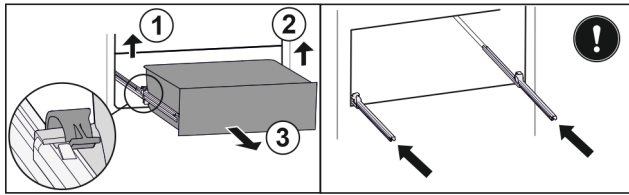

Fig. 38
- ▶ Lift left clamp and simultaneously pull drawer forwards on the left. Fig. 38 (1)
- ▶ Lift right clamp and simultaneously pull drawer forwards on the right. Fig. 38 (2)
- ▶ Remove drawer to the front. Fig. 38 (3)